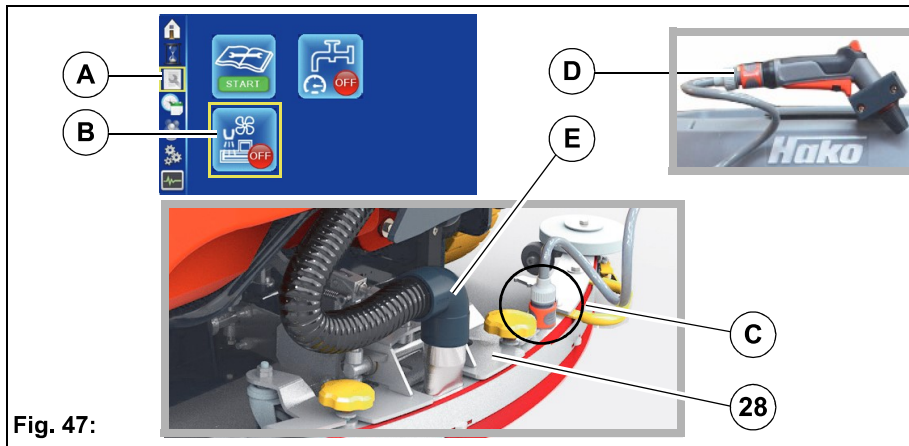

Fig. 47:
3. Pull off the suction hose **Fig. 47-E**.
2. In the sub-menu, call up menu item *Maintenance page* **Fig. 47-A**. Select soft key *Squeegee cleaning* **Fig. 47-B** with the turn-push knob and activate. The squeegee is lowered and the suction is switched on. The remaining squeegee cleaning time is displayed in 5 second intervals.
4. Connect hose to the connection of the squeegee **Fig. 47-C** using the 1/2" quick coupling, and to the water tap of the service connection.
4. Disconnect hose from the spray nozzle **Fig. 47-D** and attach to the squeegee connection **Fig. 47-C**.